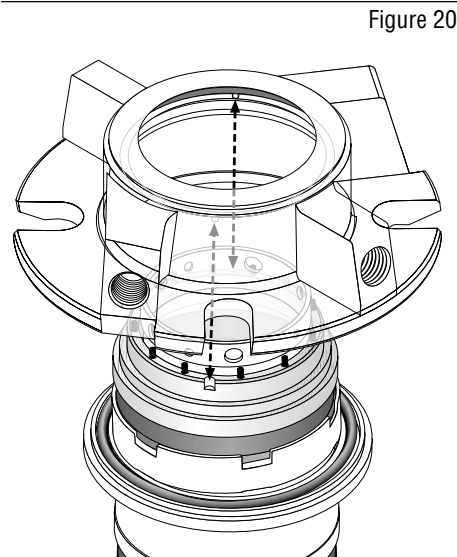

Figure 20
4.18 Align the gland assembly drive pins with the slots in the outside diameter of the stator carrier and press the gland onto the stator carrier, using even hand pressure. (Figure 20)